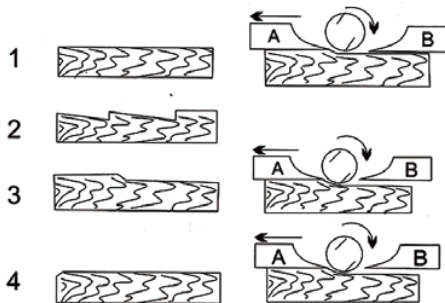

Figure 10
7. CORRECT PLANER BLADE SETTING (SEE FIG. 10)
Your planing surface will end up rough and uneven unless the blade is set properly and securely. The blade must be mounted so that the cutting edge is absolutely level, that is, parallel to the surface of the rear base. Fig. 10 shows some examples of proper and improper settings.